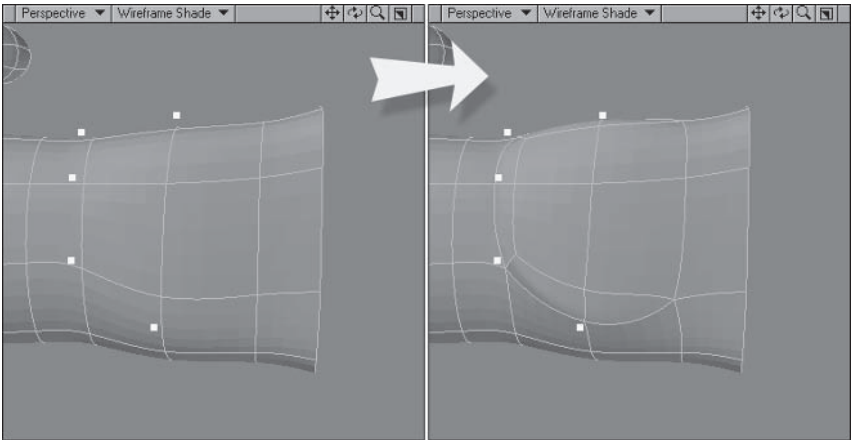

Figure 5.4-30. Adding detail.
8. Now select the points shown in Figure 5.4-30 and **Edge Bevel**. Drag the cursor left until the Numeric panel shows **0 m**.